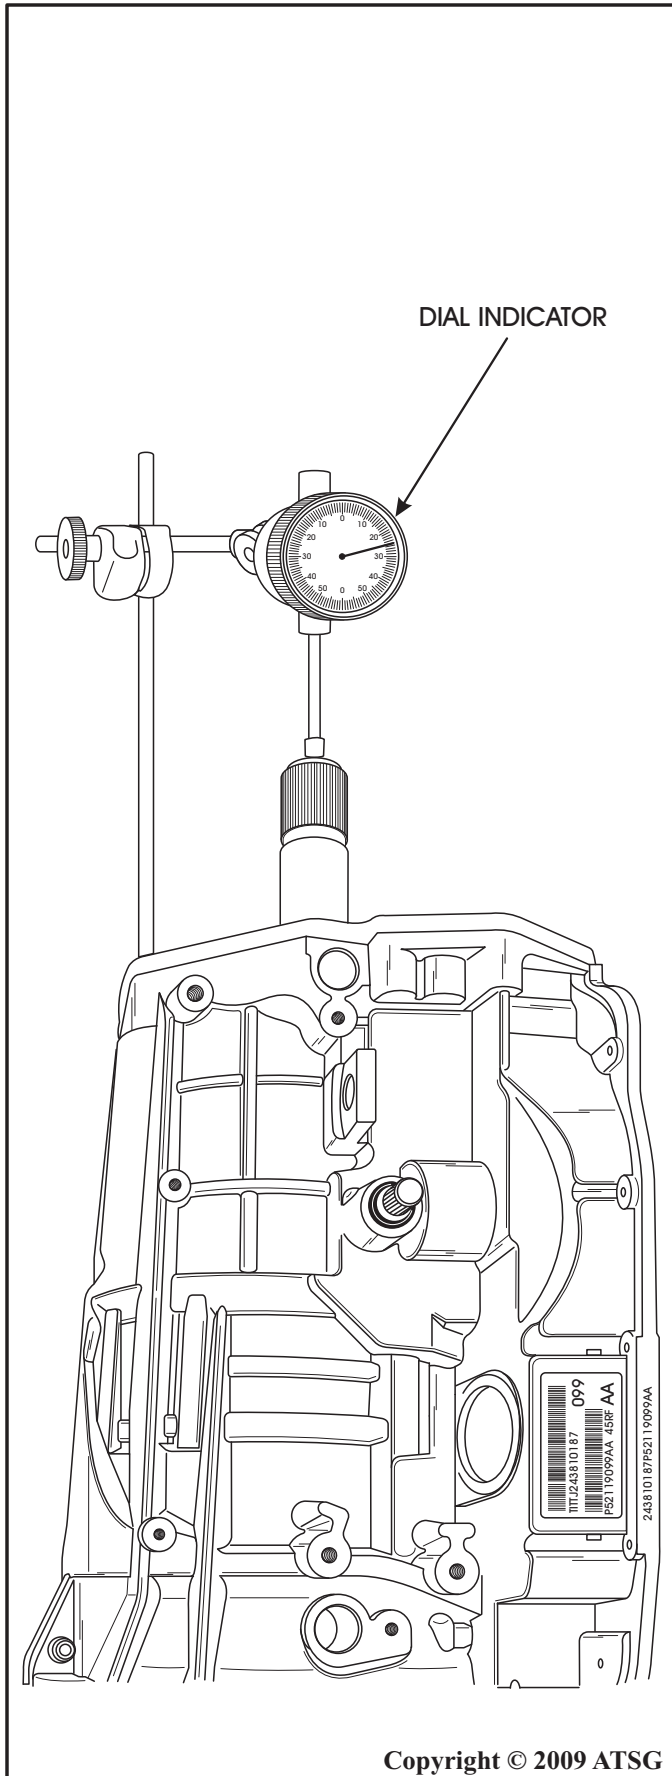

Figure 119
36. Install dial indicator on case and output shaft as shown in Figure 119. Zero the dial indicator and measure output shaft end play.